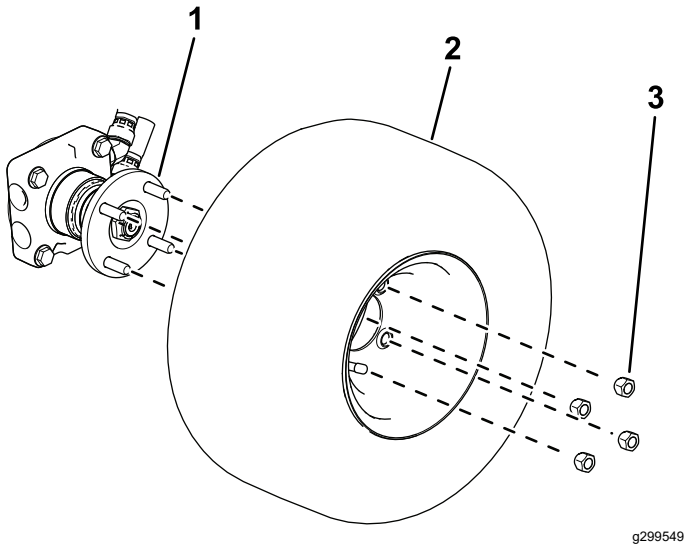

Figure 4
- **4-wheel-drive machines:** Use 4 lug nuts to secure the wheel to the wheel hub (Figure 4).